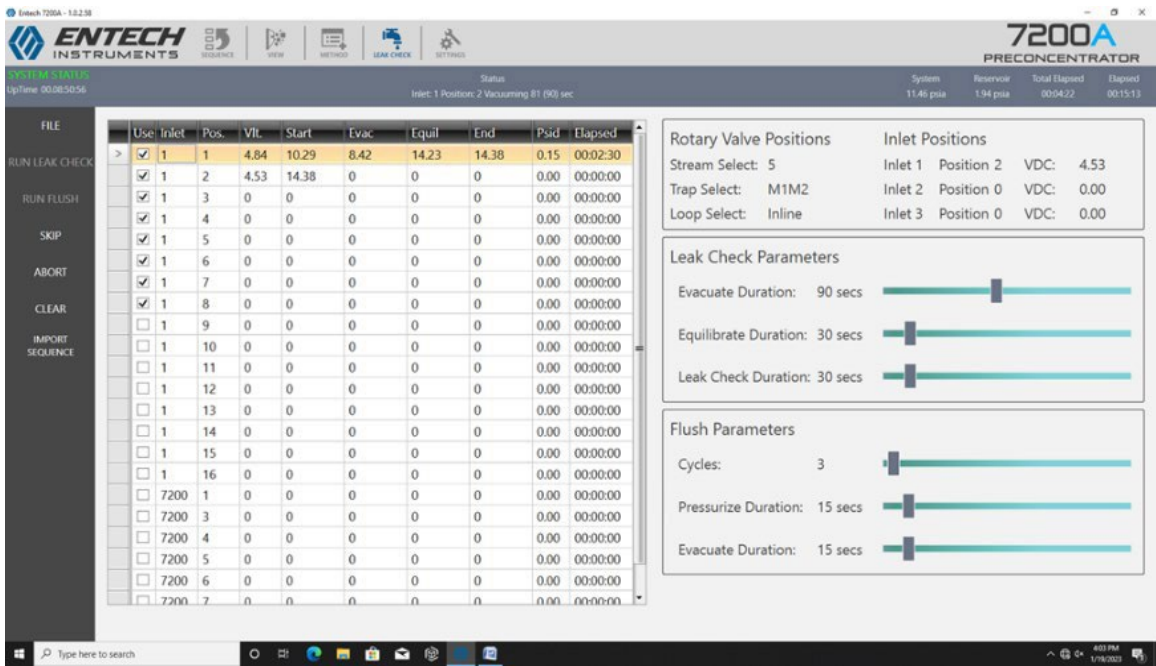

Figure 12. Psid below 0.2.
Note: Leak Check Parameters may be modified by the operator; however, the default settings shown in Figure 12 are currently in use.
6. Ensure the Psid for each canister is less than 0.2 psia. A difference greater than 0.2 psia indicates a leak in the canister connection (Figure 12).